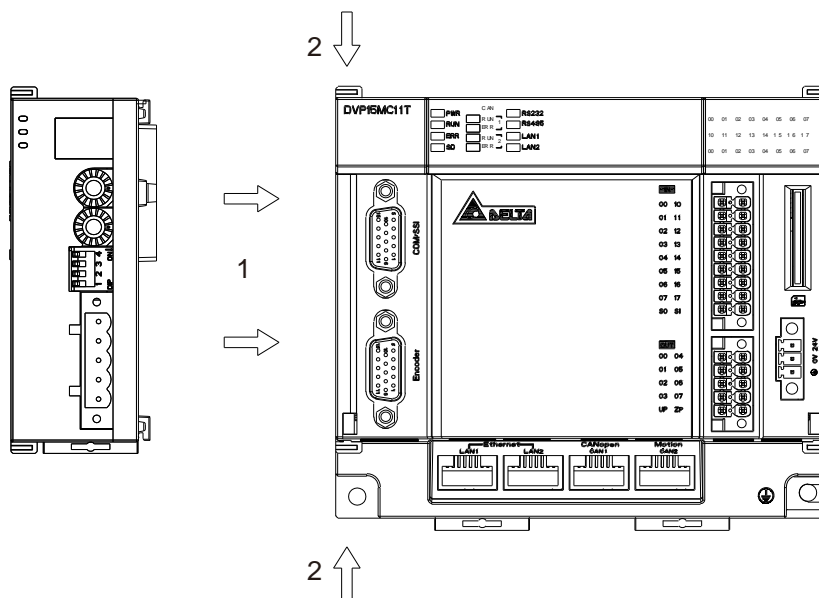

Figure 5.1.3.1
- Press the clips respectively on the top left and bottom left of DVP15MC11T to fix the module tightly and ensure that their contact is normal as step 2 in figure 5.1.3.1.